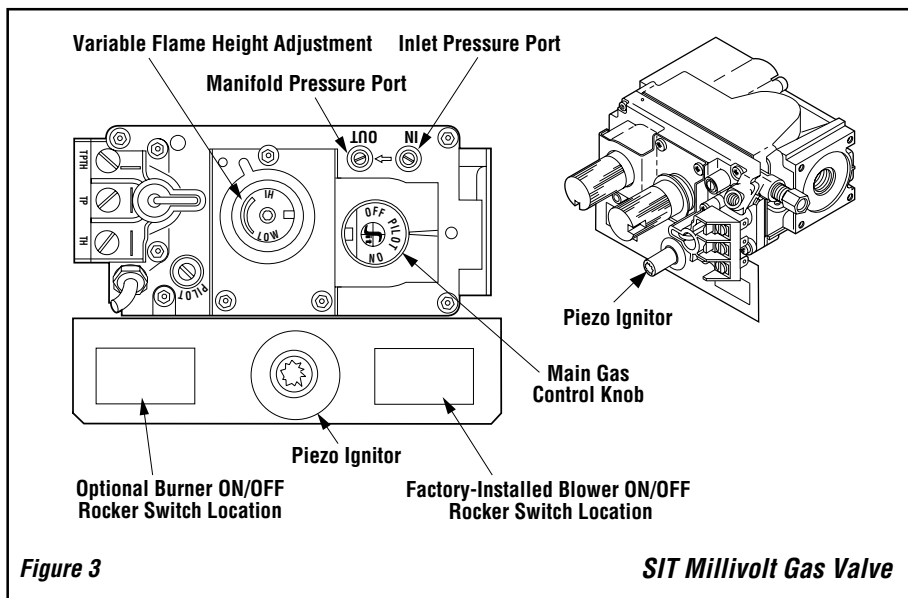
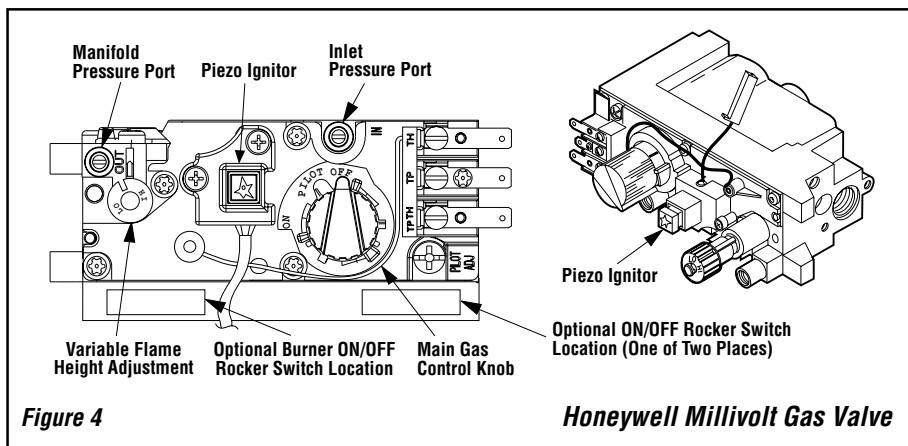

Figure 3
Figure 4
Millivolt appliances will be fitted with the gas control valve shown in *Figure 3 (SIT)* or *Figure 4 (Honeywell)* on page 4. Appliances with electronic systems will be fitted with the electronic valve shown in *Figure 2 on page 4*.
1. All Millivolt appliances are equipped with a variable gas control valve. Flame height for these models may be adjusted through a range between fixed low and high settings, alternately, while the appliance is in operation. Adjust the flame height as desired after lighting the appliance by rotating the variable adjustment control knob located on the front of the valve (**refer to Figure 3 - SIT, 4 - Honeywell**).